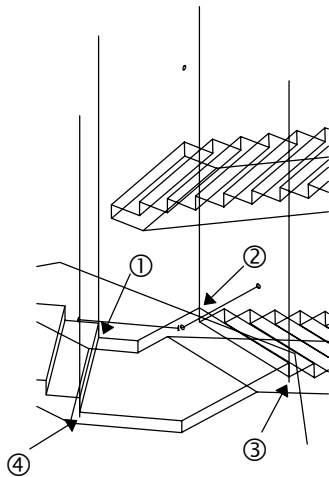

Figure 24
Begin by creating a new layer called "ShadeCloth", freezing all layers except *Stair*, *Construction* and *ShadeCloth*, and setting *Construction* as the *Current Layer*. Then, zoom in on a view of the third landing from the bottom similar to that shown in Figure 24. Follow these steps:
- Construct four vertical construction lines 3000 long at the points marked ①, ②, ③ & ④ — *the last two points are 50 mm below the bottom of the step.*
- Position the *UCS* so that the *Origin* is at ④ and the *X-axis* follows the direction of the outside edge of the landing (do this in two steps: use the *3point* option to set up the *UCS* on the landing, then move the origin to ④) — use *3DRotate* to rotate the line 30 degrees away from the landing — repeat this process for the line that starts at ③, this time with the *Y-axis* following the edge of the landing.
- Position the *UCS* so that the *Origin* lies at ③ (Figure 24) and the *Z-axis* runs up the (now sloping) line — construct a 10 mm radius circle centred at ③ (which we will extrude later to form a pole to support the tarpaulin) — do the same at point ④.